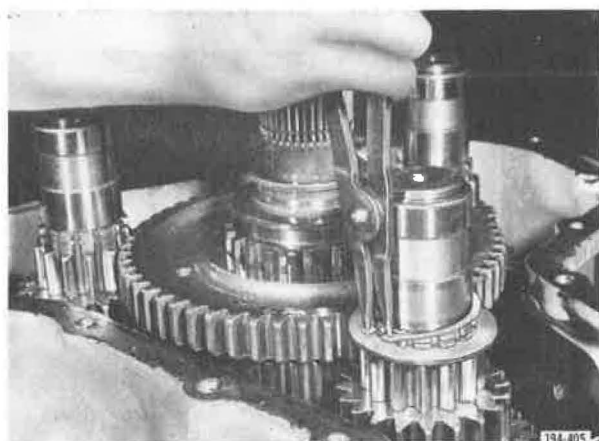

Figure 5-587. Removing Countershaft Selective Thrust Washer Snap Ring
3. Remove front countershaft selective thrust washer snap rings from the three countershafts, then remove the three countershaft selective thrust washers. See Figures 5-587 and 5-588.